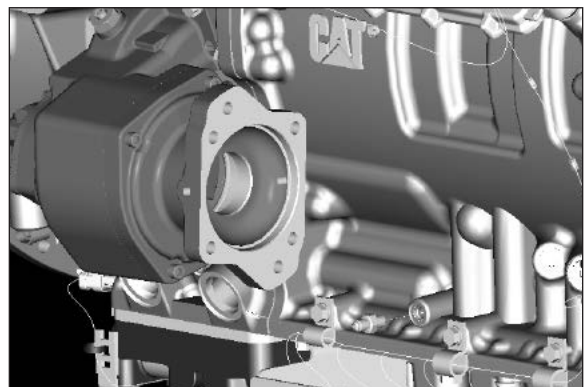

Figure 35
6. Install the remaining cap screws. Torque them to 37-44 lb-ft [50-60 N-m] (**Fig. 35**).